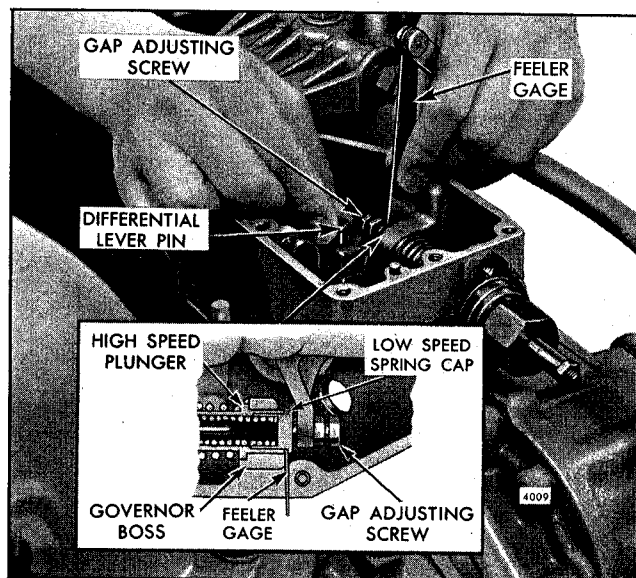

Fig. 11 - Checking Governor Gap
6. Check the gap between the low speed spring cap and the high speed spring plunger with a .0015" feeler gage. If the gap setting is incorrect, reset the gap adjusting screw (Fig. 11).